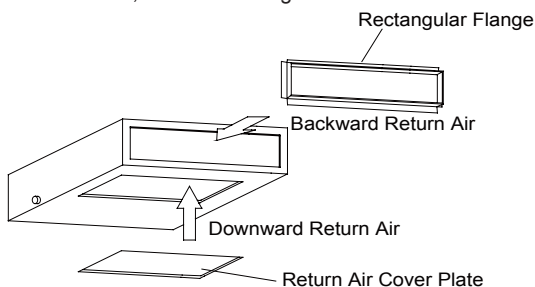

Fig.11
- (1). The default installation location of the rectangular flange is in the back and the return air cover plate is in the bottom, as shown in Fig.11.